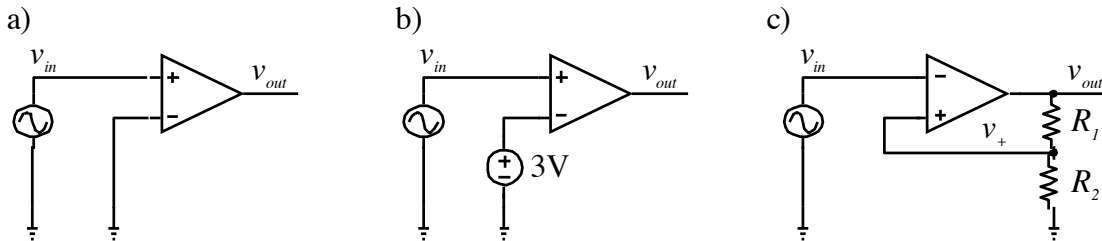

Figure 1.14: (a) and (b) Circuit schematic of two comparators; and (c) one with hysteresis.
1. Build the circuit of Figure 1.14(a)
3. Connect the negative input of the op-amp to a 3 V power supply, as shown in Figure 1.14(b). Draw the transfer characteristic in your lab book. What is the new threshold value?
1. Build the circuit of Figure 1.14(c) (notice the positive feedback), using $R_1 = R_2 = 100 \text{ k}\Omega$. Use the same input as in E4.2 and keep the oscilloscope in XY mode. Turn on the ‘persist’ option using the Display button and set it to 1 second. To better see the curve sweep, you can steadily lower the frequency of the triangular wave.